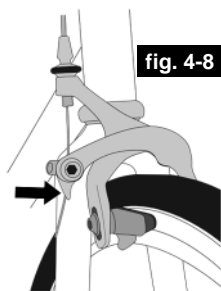
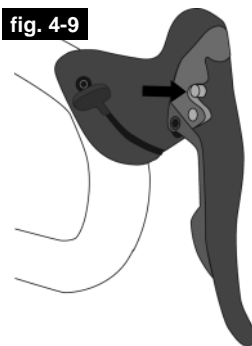
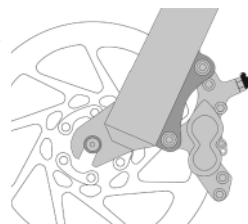
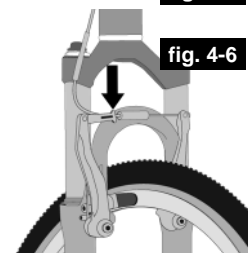

fig. 4-8
fig. 4-9
fig. 4-5
fig. 4-6
1. If your bike has rim brakes, disengage the brake's quick-release mechanism to increase the clearance between the tire and the brake pads (See "Brakes" on page 30, fig. 4-5 through fig. 4-9).
rim and the brake pads (see "Brakes" on page 30, fig. 4-5 through fig. 4-9).
- ▶ Some bicycle brakes, such as disc brakes (fig. 4-5) and linear-pull brakes (fig. 4-6), are extremely powerful. Take
Most rim brakes have some form of quick-release mechanism to allow the brake pads to clear the tire when a wheel is removed or reinstalled. When the brake quick release is in the open position, the brakes are inoperative. Ask your dealer to make sure that you understand the way the brake quick release works on your bike (see fig. 4-6 through fig. 4-8) and check each time to make sure both brakes work correctly before you get on the bike.